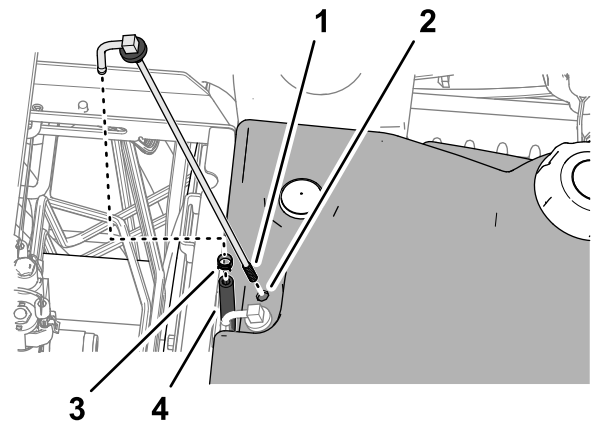

Figure 132
5. Clean the screen at the end of the fuel pick-up tube (Figure 132).
3. Remove the clamp that secures the hose to the fuel pick-up tube (Figure 132).